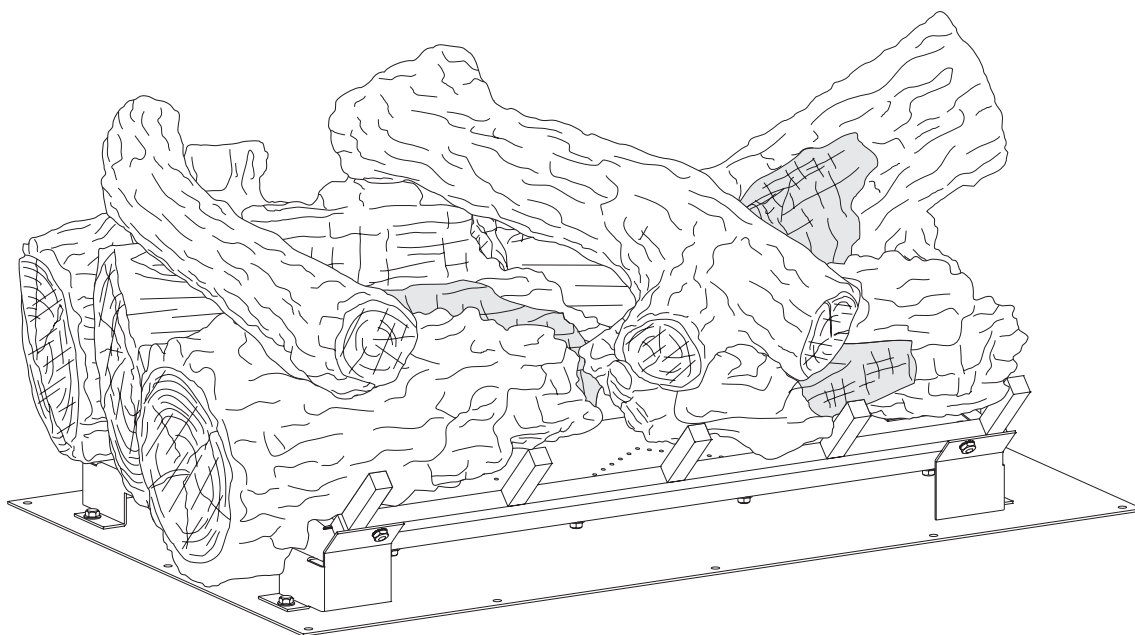

Figure 4
12. Compare the completed log installation with Figure 4. Review previous steps to make any necessary adjustments.